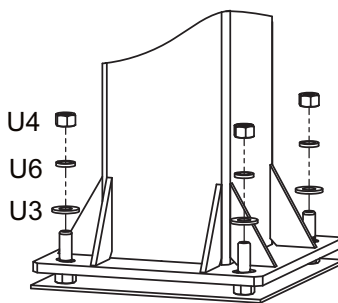
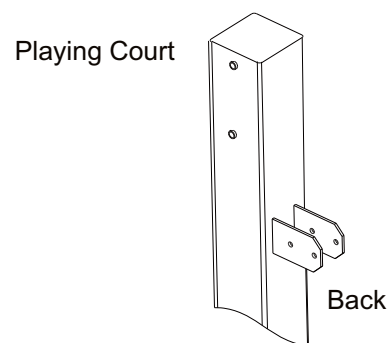

FIGURE 1B
FIGURE 1C
- B. Remove the Padding from Main Post (A). Place the Main Post (A) over the J-Bolts. Slide a 16mm Thick Washer (U3), a Lock washer 16mm (U6) and thread a 16mm Hex Nut (U4) to each J-bolt. Tighten the Nuts only a few turns onto the J-Bolts as shown in FIGURE 1B.
- C. If the Main Post (A) is not exactly vertical, adjust the 16mm J-Bolt Hex Nuts (U4) located under the Post base. Tighten all of the Hex Nuts (U4) Above Post base when Main Post (A) is vertical.
NOTE: Face the Main Post (A) with Actuator Bracket facing away from playing court (as shown in FIGURE 1C).